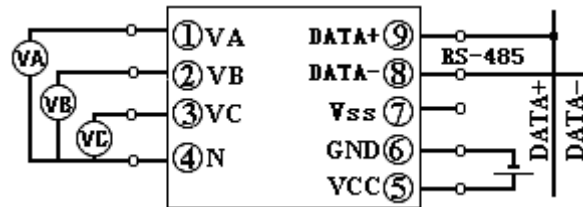

Fig. 3.5.4.3 for connections of CE-AV42, S3 case style
3.5.4.2 See Fig. 3.5.4.4 for connections of CE-AV32, N case style.